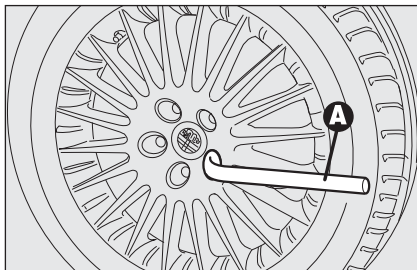

fig. 5
- Loosen the bolts of the wheel to be replaced by about one turn with the wrench provided **A-fig. 5**; if the car is fitted with alloy rims, shake the car to facilitate removing this rim from the wheel hub;